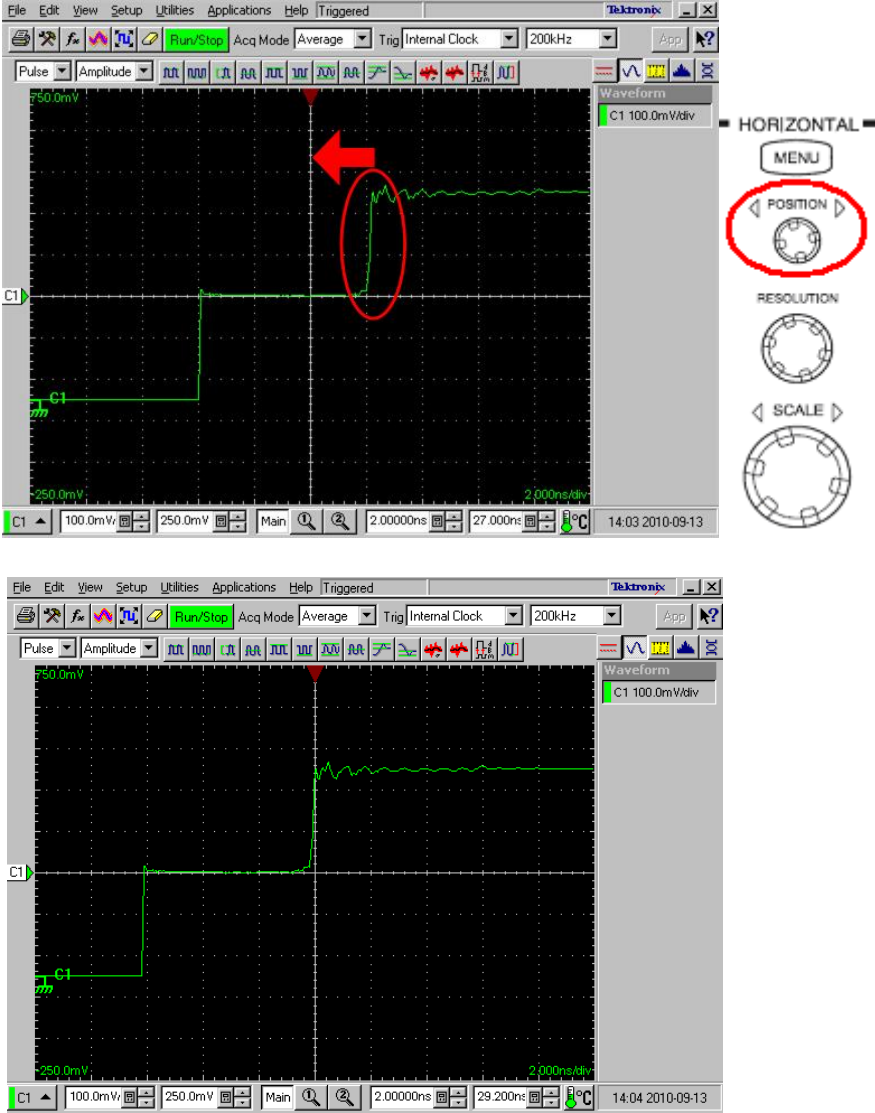

Figure 7: Setting Horizontal Position
- (11) Adjust the **HORIZONTAL POSITION** knob so that the edge of **C1** waveform is displayed at 5 major divisions from the left edge of the screen (see Figure 7).